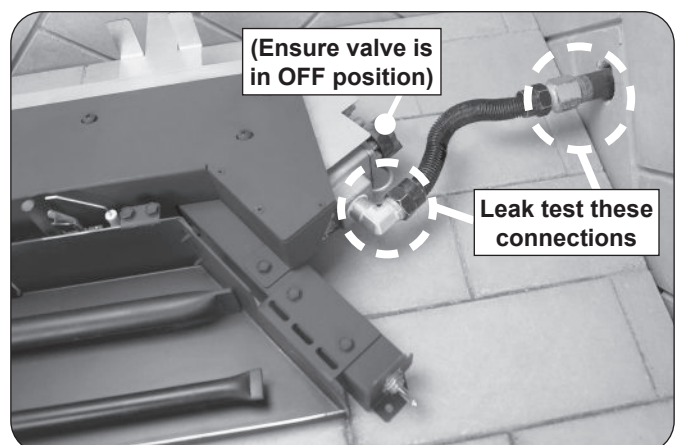

Fig. 9-4 Perform leak test
5. **LEAK TEST:** Make sure the burner valve is in the OFF position. Turn on the fireplace gas supply, and test at all connections for leaks using the appropriate soapy water solution. See Fig. 9-4. If bubbles appear, a leak is present. Turn off the gas and tighten at all connections. Repeat until no leaks are present. If a leak persists, turn off the gas supply and contact the local gas company or dealer. **NEVER USE A FLAME TO CHECK FOR LEAKS.**